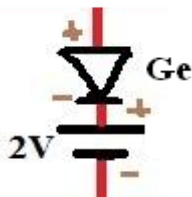
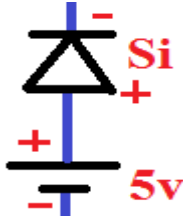

Fig.4: Same direction of Ge diode and battery
Fig.5: Opposite direction of Si diode and battery
7. In a figure 4, from bottom to up, battery and diode have same direction; hence the equivalent voltage will be $+2 + 0.7 = 2.7$ volt. But in case of figure 5, battery polarity is positive to negative and Ge diode polarity is positive to negative; hence the equivalent voltage will be $5-0.3 = 4.7$ volt.